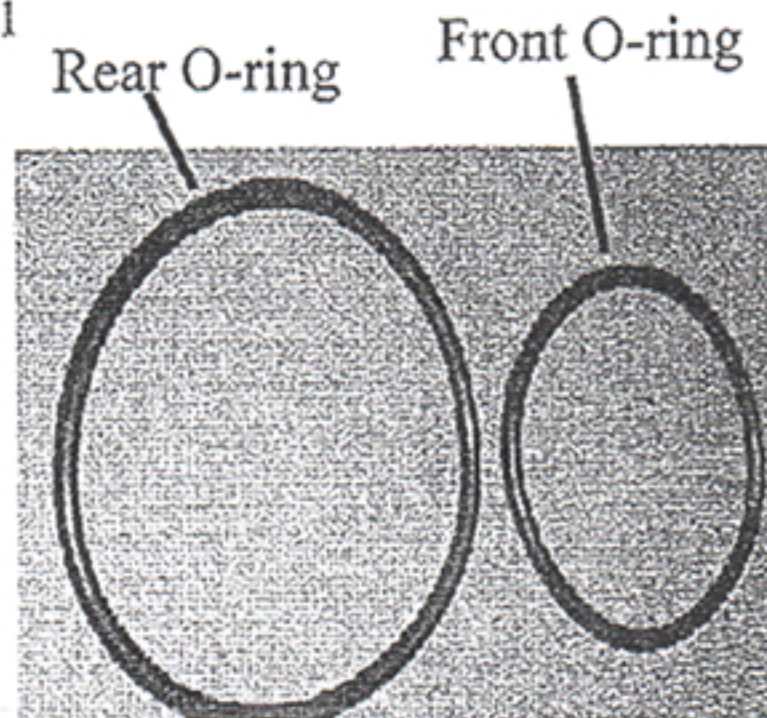
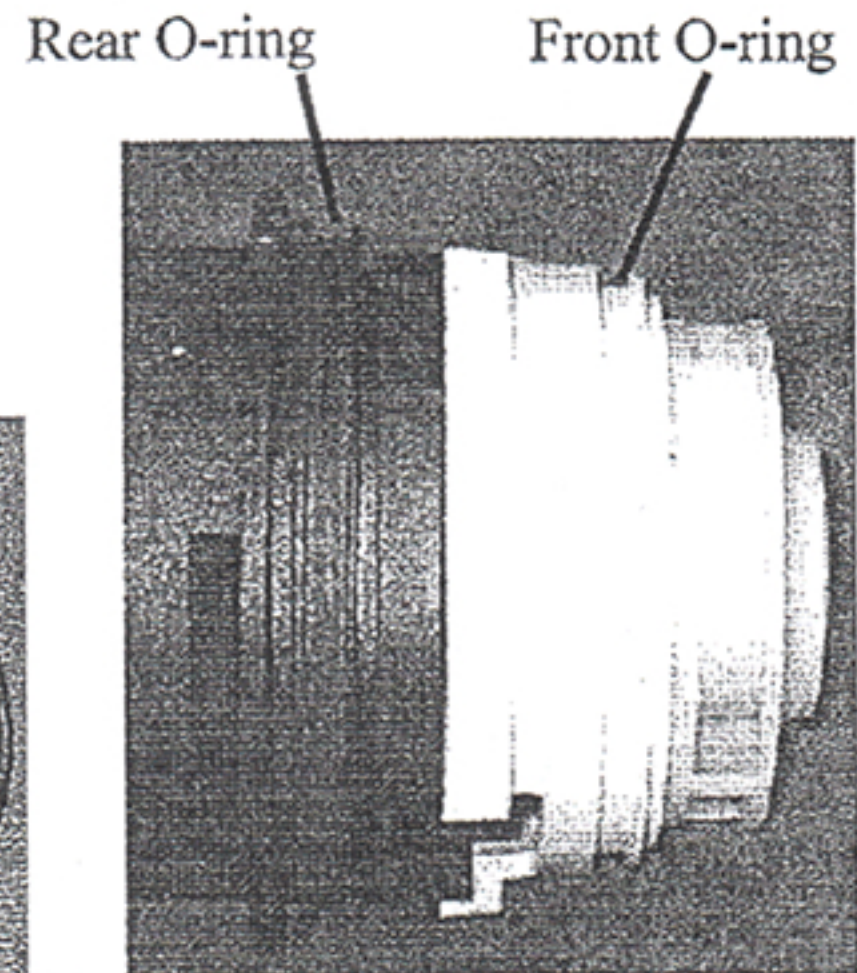

Figure 1.
Figure 2.
2. Remove volute cover from sump by removing three (3) Torx head screws and remove ball.
3. Remove the motor mounting bracket two (2) screws from bottom of sump, slide off back of pump.
5. With a small amount of liquid soap or rinse aid cover the o-ring. Slide the o-ring into the rear channel making sure o-ring does not get twisted. See Figure 2
6. First install rear o-ring, farthest from the wash impeller, this is the larger of the two seals. See Figure 1
7. Install front o-ring, closest to the wash impeller, this is the smaller of the two. See Figure 1 This o-ring will be installed the same as the rear only in the front channel of the pump housing. See Figure 2